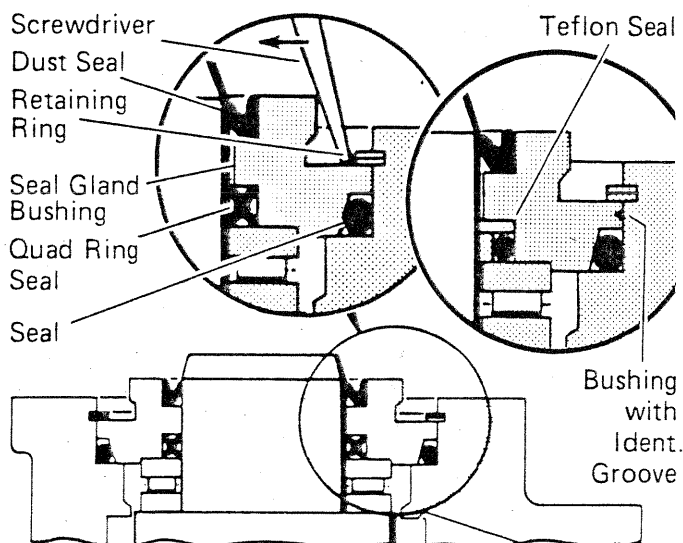

Figure 19
- 14 Install 1-1/4" diameter dust seal in seal gland bushing, flat or smooth side of dust seal must face down towards bushing, see Fig. 19.
- 15 Install dry quad ring seal in seal gland bushing. Smooth seal in place with your finger. Do not use any seal that falls freely into pocket of bushing, see Fig. 19.